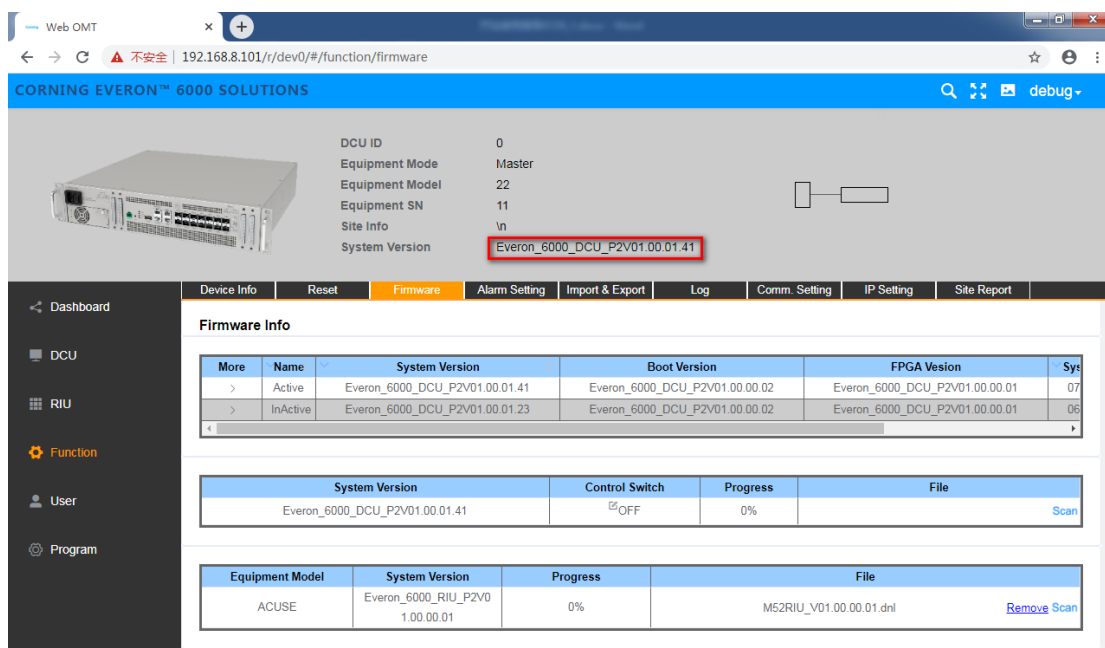

Figure 5.2-4 DCU software query
Step5: after the device upgrade and reset is completed, as shown in figure 5.2-4, the software version number of the DCU network element is Everon_6000_DCU_P2V01. 00.01.41 indicates that the software of the DCU network element has been upgraded.